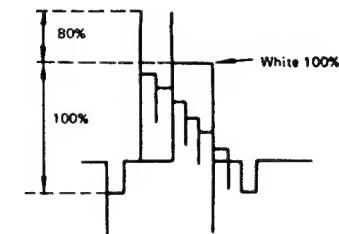

Figure 2-10
3. Observe the output of TP201 with an oscilloscope and adjust R229 (white clip control) so that the output waveform is as shown in Fig. 2-10.